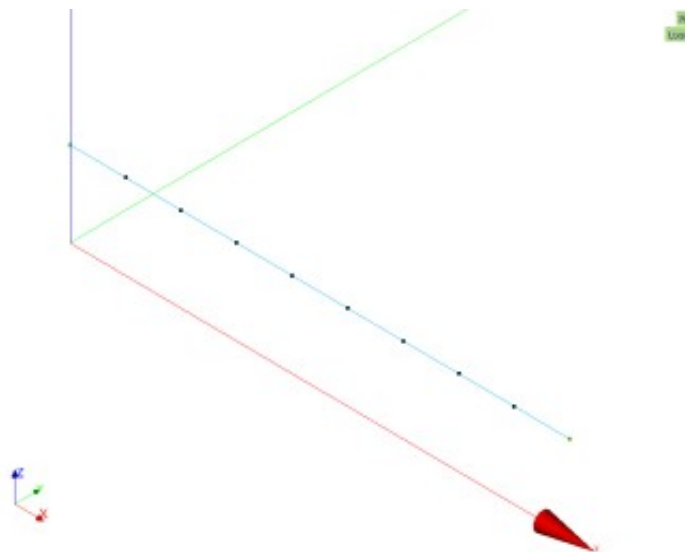

Figure 4.1: 1D mesh
- SMESH: Create two node groups: One called 'Fix' at node (0,0,500) and one called 'Load' at (3000,0,500). Export the mesh as a *.med* file. The result should look like figure 4.1